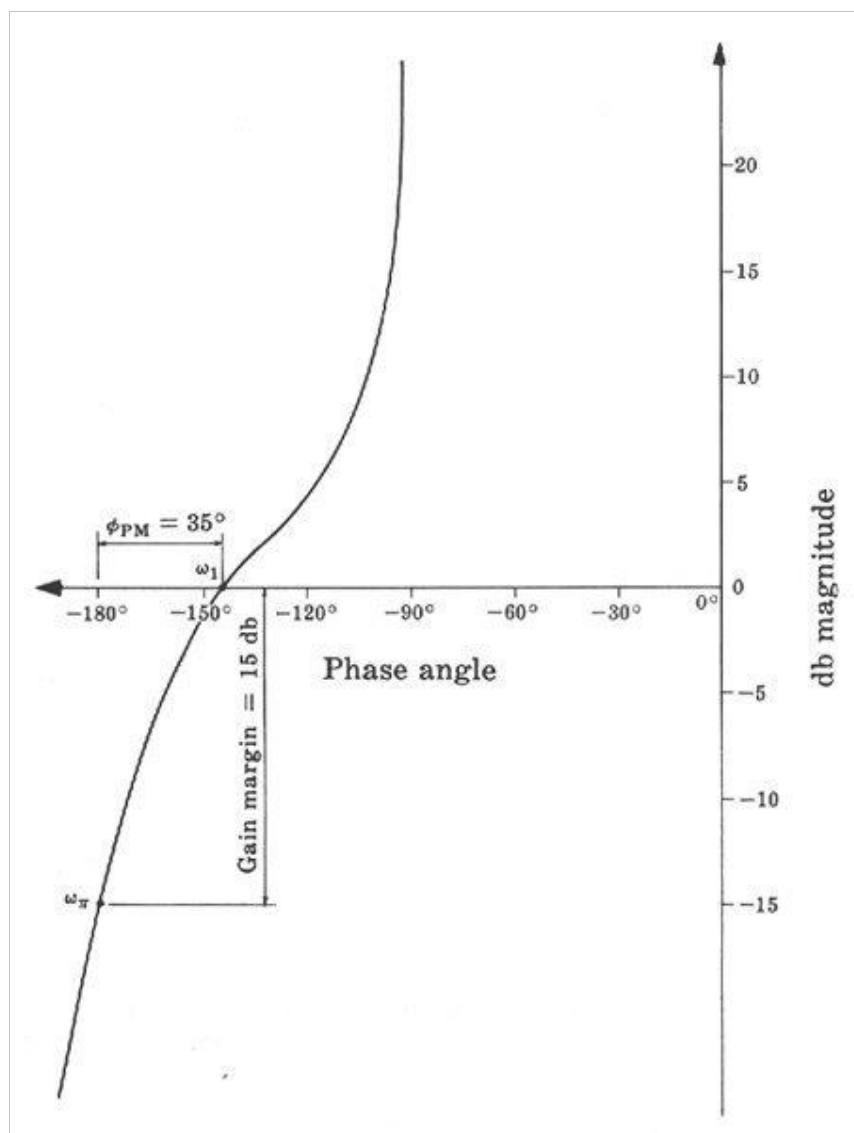

Figure 1: Example of a Nichols Plot
- ✓ Example of a Nichols Plot, showing in Figure 1 how the gain and phase margins can be directly read from the diagram: the phase margin is the distance from the intersection of the curve with the 0 dB axis and the critical - 180-degree point, here 35 degrees. The gain margin is the vertical distance between the - 180 degree - point and the intersection between a vertical line through the - 180 degree - point and the curve, here 15 dB. The frequency is the parameter along the curve from right to left. The minimum distance between the - 180 degree. point and the curve indicates the critical frequency.